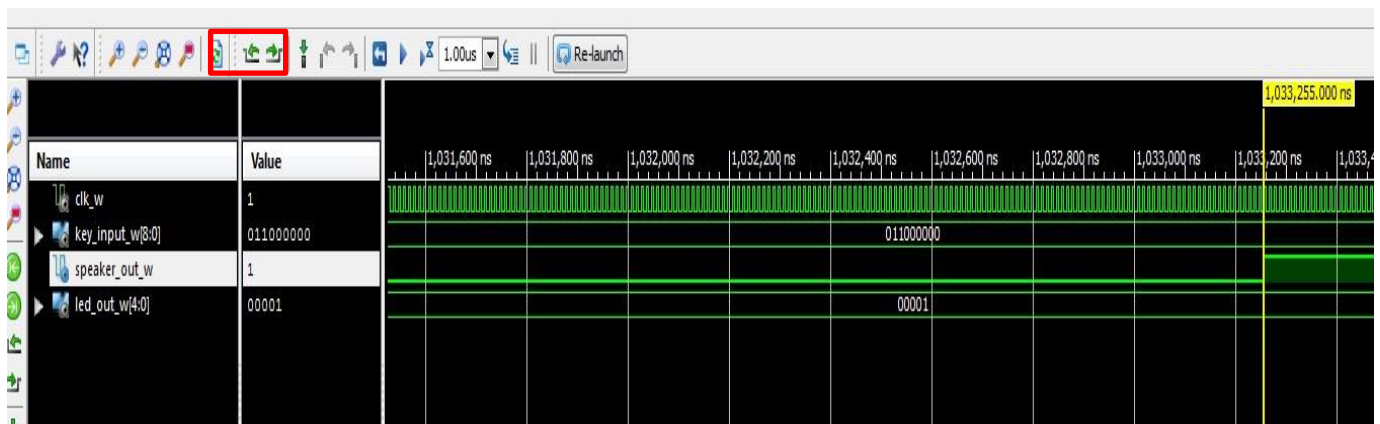

Fig.4: Observing the change in speaker\_out\_w and key\_input\_w signals
- b. Verify the waveform to see if **key\_input\_w** is changing or not as shown in Fig. 4
- c. Verify if the **speaker\_out\_w** is changing or not as shown in Fig. 4